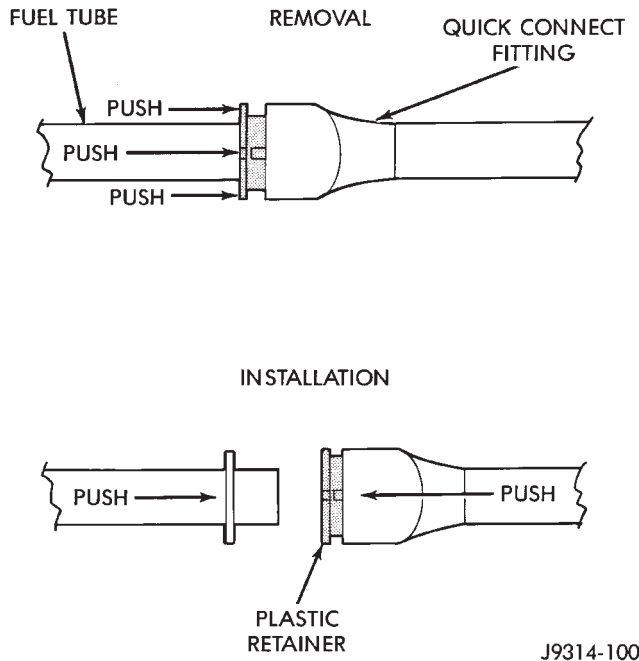

Fig. 20 Plastic Retainer Ring Type Fitting
(6) **Plastic Retainer Ring Type Fitting:** This type of fitting can be identified by the use of a full-round plastic retainer ring (Fig. 20) usually black in color.
(a) To release fuel system component from quick-connect fitting, firmly push fitting towards component being serviced while firmly pushing plastic retainer ring into fitting (Fig. 20). With plastic ring depressed, pull fitting from component. **The plastic retainer ring must be pressed squarely into fitting body. If this retainer is cocked during removal, it may be difficult to disconnect fitting. Use an open-end wrench on shoulder of plastic retainer ring to aid in disconnection.**